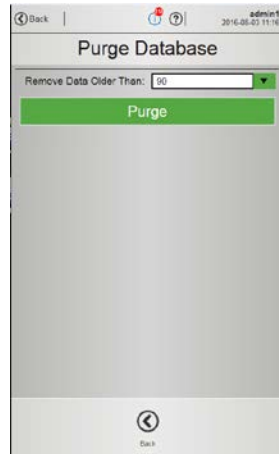

Figure 5-26: Purge Screen
- A screen as shown in Figure 5-26 will be displayed.